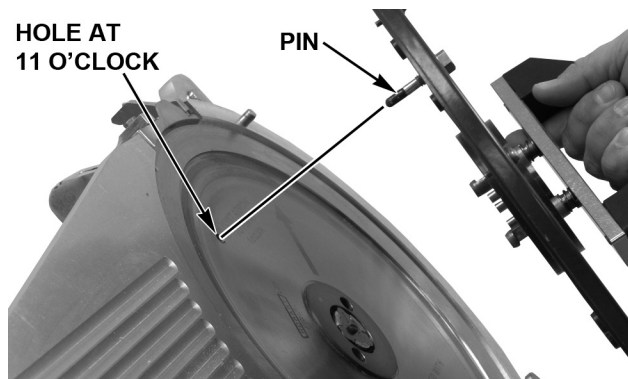

Fig. 13
- The Pin (Fig. 13) on the Knife Removal Tool fits the hole in the Knife at the 11 o'clock position (Fig. 13).